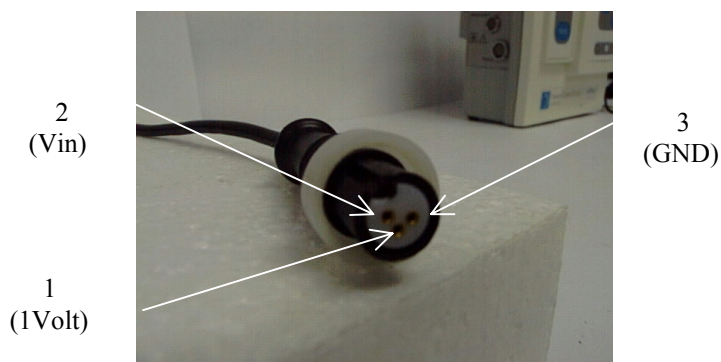

Figure 3-23 Temperature Transducer Connector
3. Connect the leads of the Digital Multimeter (DMM) to pins 1 (1 Volt) and 3 (GND) of Pre-Amp cable (PAC-1) temperature connector (Figure 3-23). **Note:** The ICT parameter should be reading “---” up to this point.